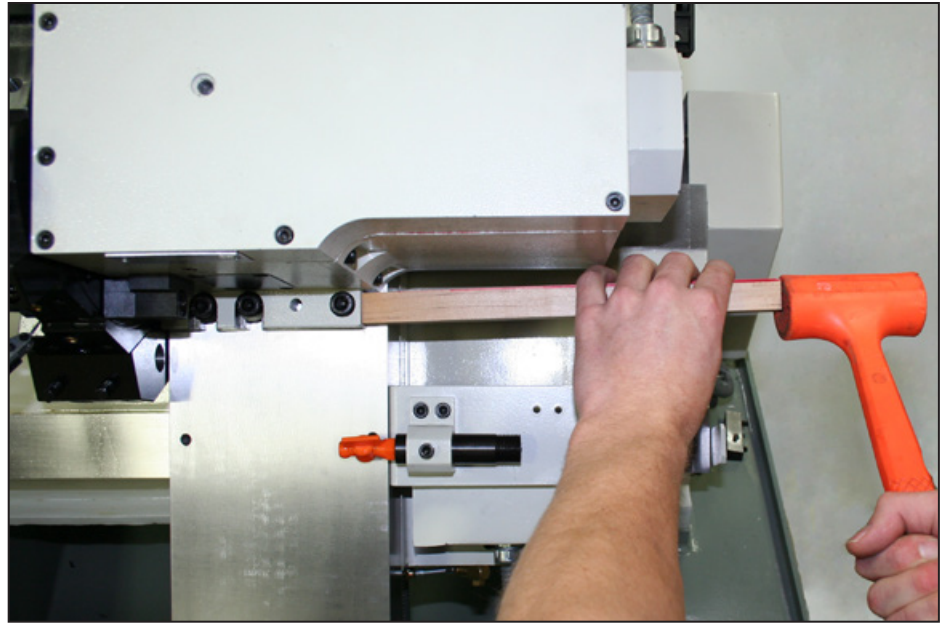

Figure 28
4. Use a piece of wood to tap the turret with a dead-blow hammer (see **Figure 28**); repeat until the tool pocket is perpendicular to the spindle.